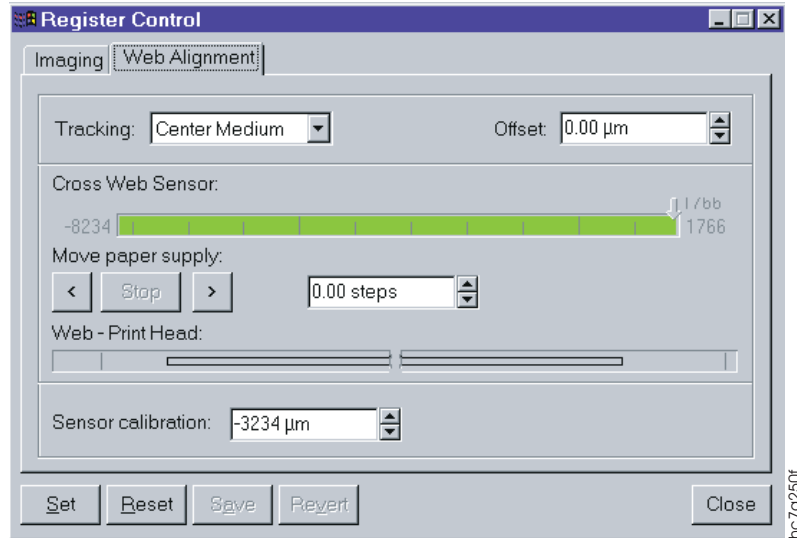

Figure 195. Register Control Window
14. Open the **Register Control** window, as shown in Figure 195 on page 220.